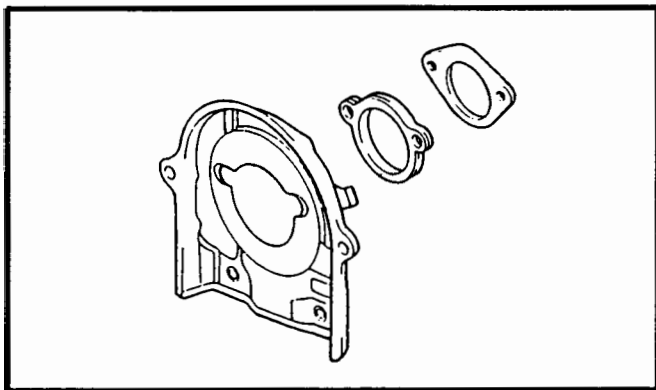

Figure 50.
1. Install the oil seal plate over the front camshaft seal. Install the rear timing belt cover with grommet onto the head assembly. See Figure 50.